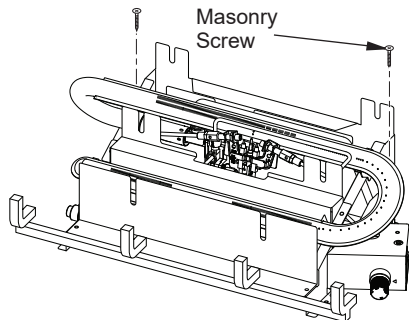

Figure 10 - Attaching Heater Base to Fireplace Floor
2. Mark screw locations through holes in mounting brackets (see Figure 10). If installing in a brick-bottom fireplace, mark screw locations in mortar joint of bricks.
5. Attach base assembly to fireplace floor using two masonry screws provided in hardware package (see Figure 10).